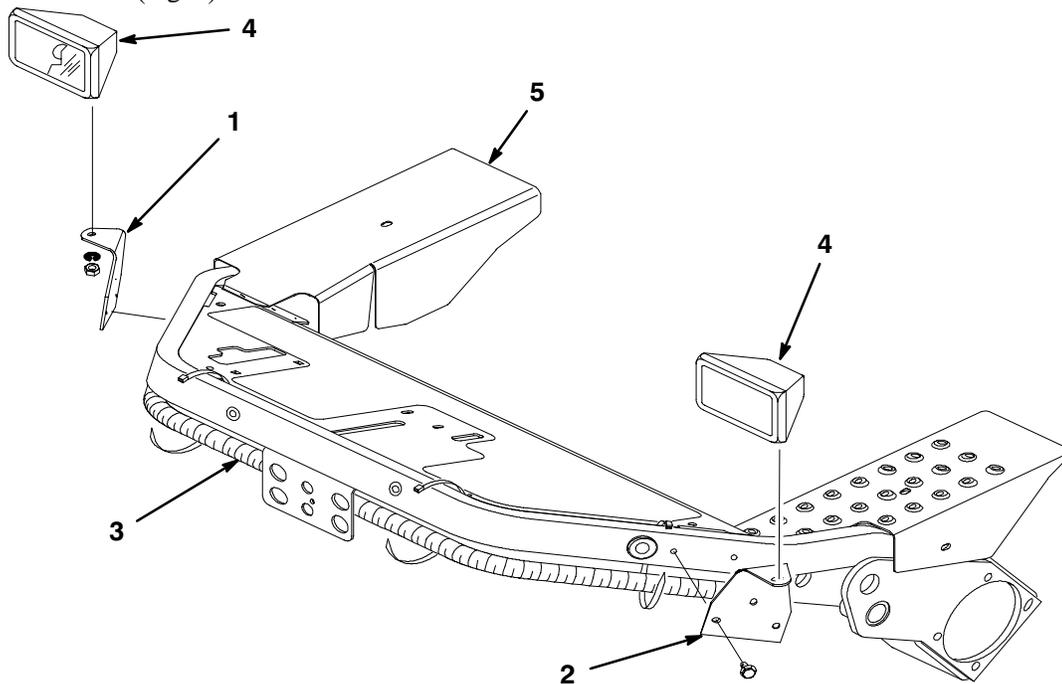

Figure 6
3. Mount the light brackets to the frame with (2) 5/16-18 x .62" long self tapping screws (Fig. 6).
8. Route harness forward, under wheel shield, and around front frame member (Fig. 6).